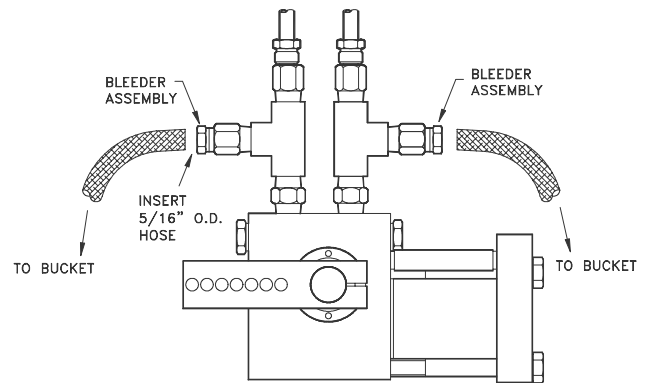

Figure 1 Slave (typical)
5. Insert end of 5/16" tube into one Slave Bleeder Fitting, other end into a **clean** container or bucket. Refer to **Figure 1**.